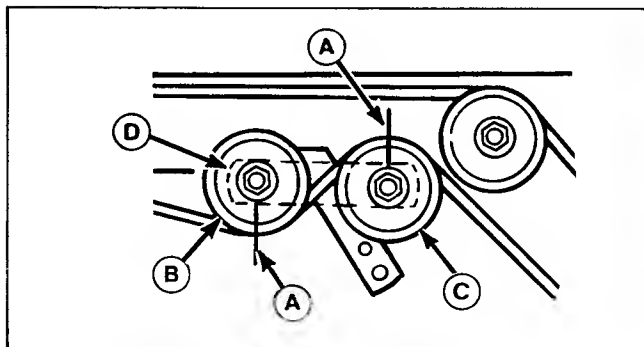

Figure 24.
4. Loosen belt guides (A, Figure 24) and remove old belt (if necessary). Install new belt so that grooved side of belt faces the grooved pulley (B) and the flat side of belt runs along the top of the flat-sided pulley (C). Tighten belt guides (A) so they are at a 90° angle to pulley bracket (D).